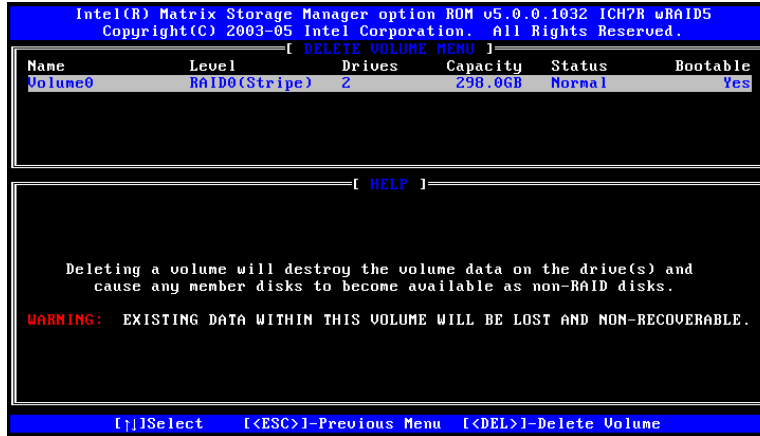

Figure G-9: Select RAID Volume to be Deleted
Step 2: Select RAID Volume to be Deleted. Use the arrow keys to highlight the RAID volume to be deleted and press **ENTER**. See Figure G-9.